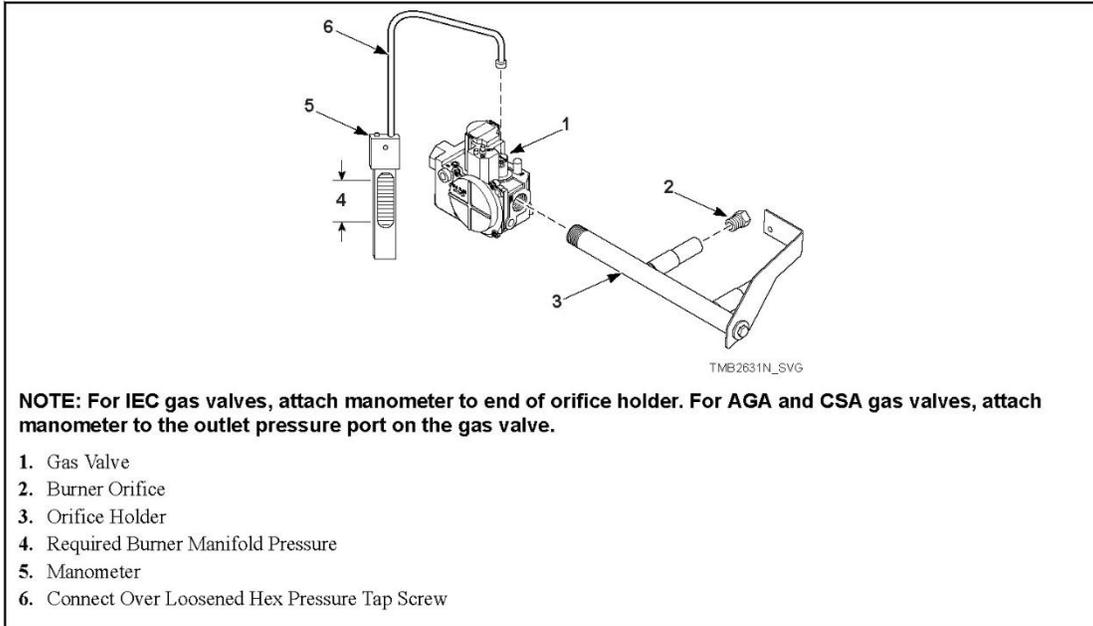

Figure 18
2. Remove orifice holder. Unscrew orifice holder nut near gas valve. Remove the burner orifice(s) from orifice holder. Refer to *Figure 18*.
1. Check gas burner orifice (manifold) pressure as follows. Refer to *Figure 18*.
4. Start tumble dryer and note pressure once flame is burning. Remove regulator cap and adjust regulator screw until the burner orifice pressure per applicable table is achieved. Replace regulator cap. Refer to *Figure 18*.